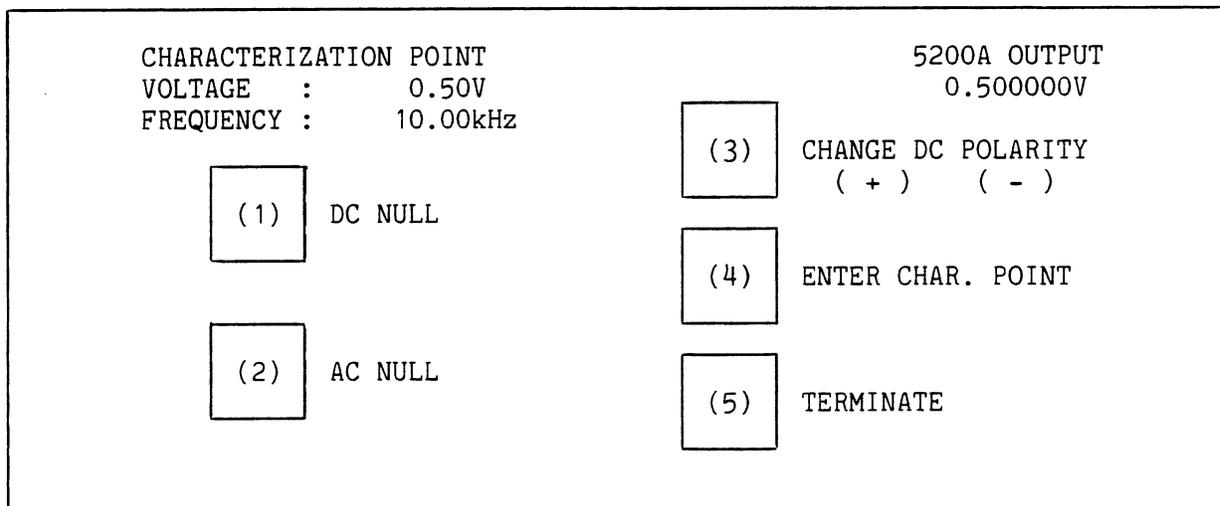

Figure 4-6. AC/DC Transfer Control Display
2. The program is now at the Characterization-Point Display, shown in Figure 4-6. The voltage and frequency of the characterization point are shown on the display. From here you can skip to the next point, display the whole table and return to this point, terminate the procedure, or characterize this point. To characterize this point, touch select **CHARACTERIZE**.
Do this. The AC/DC Transfer Control Display as shown in Figure 4-6 is then called up.
Once **AC NULL** is complete, touch-select **NULL COMPLETE** to return control to the AC/DC Transfer Control Display of Figure 4-6, after a momentary prompt to open the **GALV** switch. **NULL COMPLETE** also stores the 5200A output voltage as a characterization constant. If **AC NULL** is repeated for the same point, this constant is updated.
3. When **TERMINATE** is touch selected from the AC/DC Transfer Control Display (Figure 4-6), control returns to the Characterization-Point Display (Figure 4-5). When **TERMINATE** is then touch selected from this display, an instrument reset occurs over the IEEE-488 Bus, and control is returned to the Main Menu. Be sure the 540B **GALVO** switch is open before touch selecting **TERMINATE** and resetting the instruments.